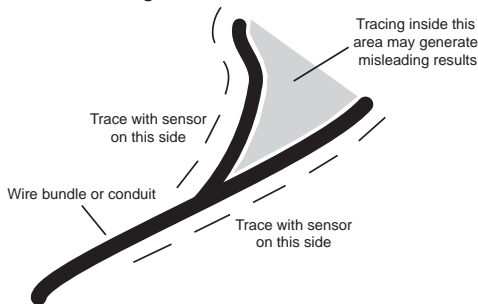

Fig. 8 - Tracing Wires inside bundles and conduits
- To avoid following the wrong path, which could happen if the FF310R's sensor picks up the signal from the other nearby branch of the circuit, the branches should be swept maintaining the sensor outside the apex area between the split, as shown in Fig. 8.